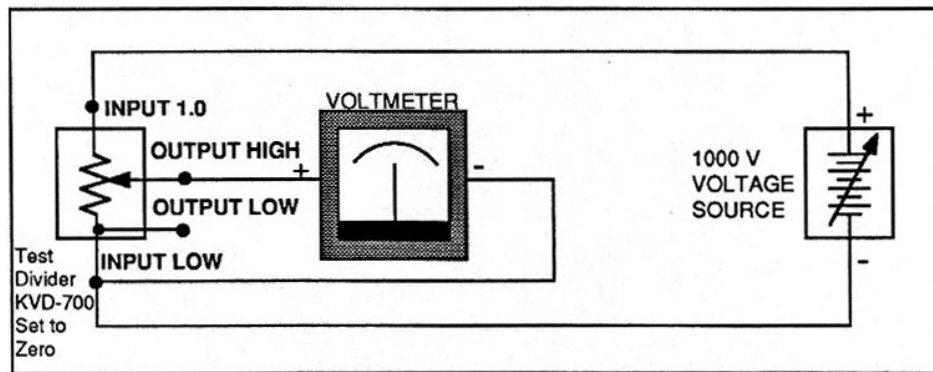

Figure 5.1. Setup Diagram for Measurement of Zero End Correction Relative to Input Common
1. Connect the equipment as shown in Figure 5.1 and set the voltage source to 1000 V. **MODE** switch should be at **NORM**, and all switches set to 0. In the tests to follow the voltages measured represent a relation of 10 μ V to .01 ppm. Convert the voltages accordingly. Set the KVD-700 to zero and measure the voltage between the **OUTPUT HIGH** and the **INPUT LOW**. This is the zero or low end correction relative to input common. Confirm that it is $< \pm 0.05$ ppm of input.